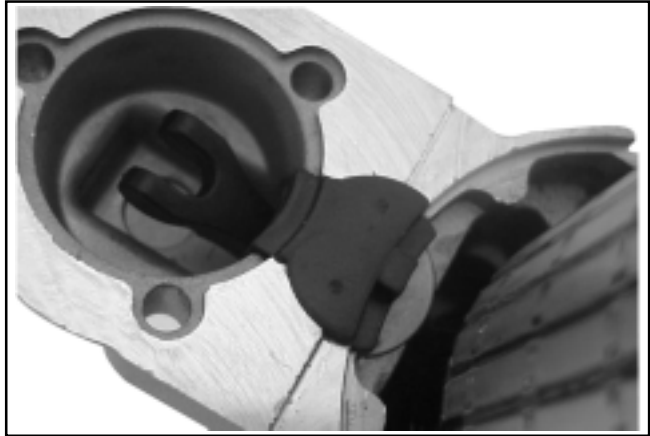

Figure 8-32. Installing Backup Washer and Grommet.
7. Install the backup washer followed by the rubber grommet, into the matching recess of the drive end cap. The molded recesses in the grommet should be “out”, matching and aligned with those in the end cap. See Figure 8-32.